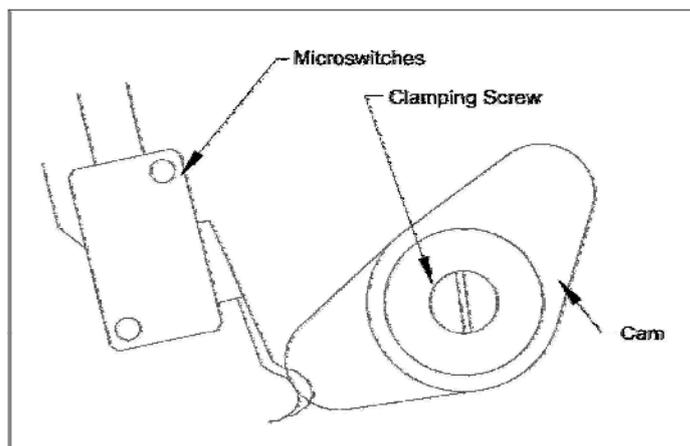

Figure 5: Limit switches
7. The Limit Switches may now be adjusted (See figure 5). Each of the Master and Slave operators has its own pair of cams, one to set the open position and one to set the closed position. Firstly mark the position of each cam as a reference. Loosen the screw holding the cams. Operate the LI-2B operator with the transmitter and note which cam controls opening and which cam operates the closing motion. (The cam lobe activates a Limit Switch to turn off the motor). Reposition each cam and operate the LI-2B again. Repeat until the gates open and close to the required positions.